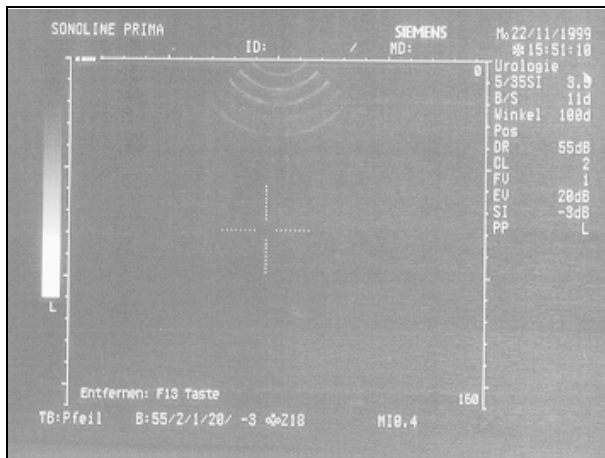

Fig. 2
- A cross (Fig. 2) is displayed when a probe is selected.